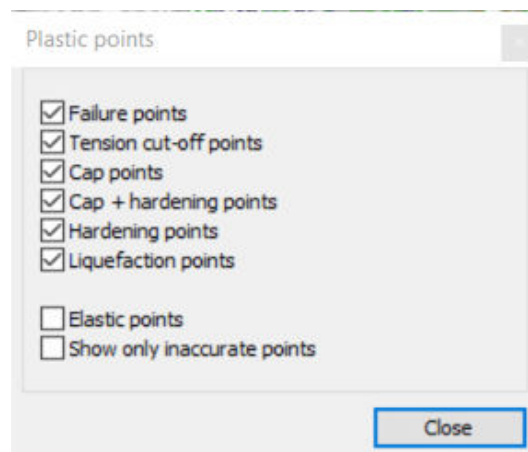

Figure 36: Plastic points window
3. In the **Plastic points** window, select all the options except the **Elastic points** and the **Show only inaccurate points** options (See Figure 36 (on page 56)).